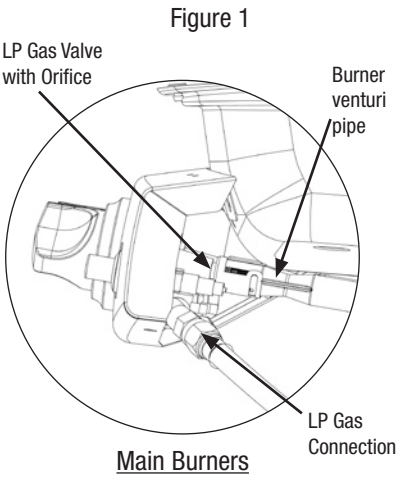

Figure 2
2. Make sure control knobs are 🔒 (OFF) position. (Figure 2)
3. All control knobs must be in the 🔒 (OFF) position. (Figure 2)